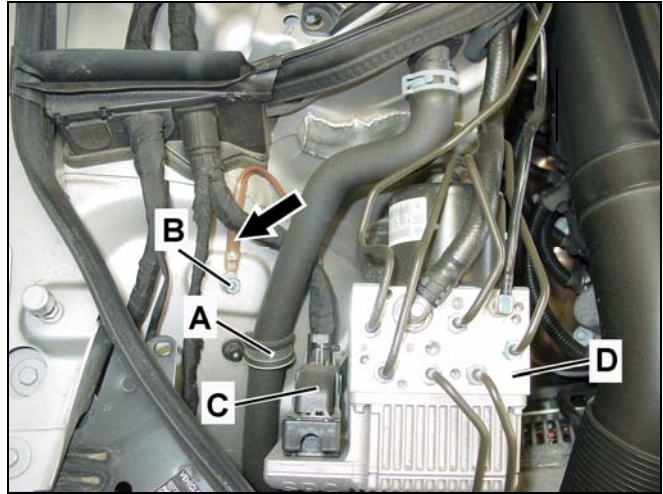

Figure 3
2. Loosen hose mounting strap (A, Figure 3) and reposition hose and strap (A) to create more working space.
3. Disconnect harness connector (C, Figure 3) from the SBC hydraulic unit (D).
4. Detach the SBC hydraulic unit ground wire (arrow, Figure 3) at ground terminal (B).